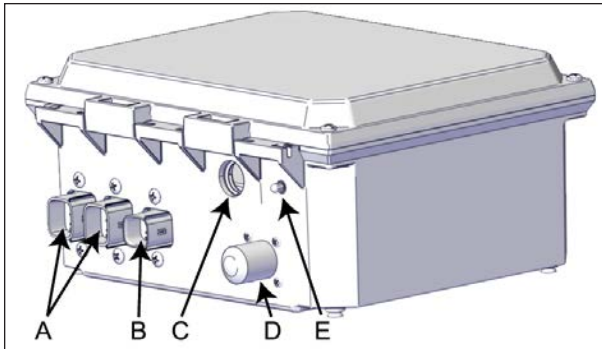

FIGURE 84: CONTROL BOX
3. Start by connecting the two motor jack harnesses to the AC control box, see Figure 84. Use the wires shown in Figure 7 in the Jack installation section. Put the exceeding wires as close to the spa as possible to hide and protect the wires.
4. Unpack the key switch and plug the harness into the AC control box, see item B in Figure 84.